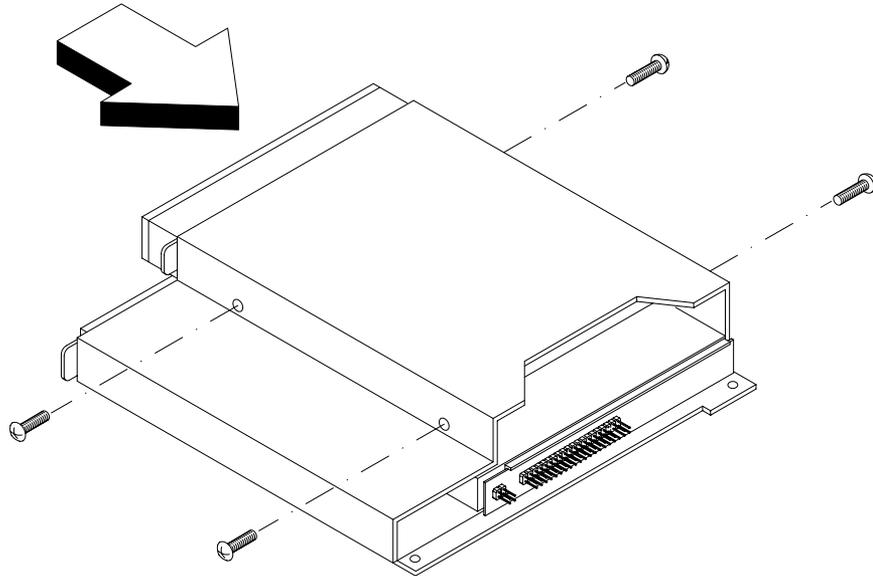

Figure 2-31 Installing the Diskette Drive into the Drive Module
1. Slide the diskette drive into the drive module as shown in Figure 2-31.
2. Tighten four screws, two on each side of the disk drive module, as shown in Figure 2-31.